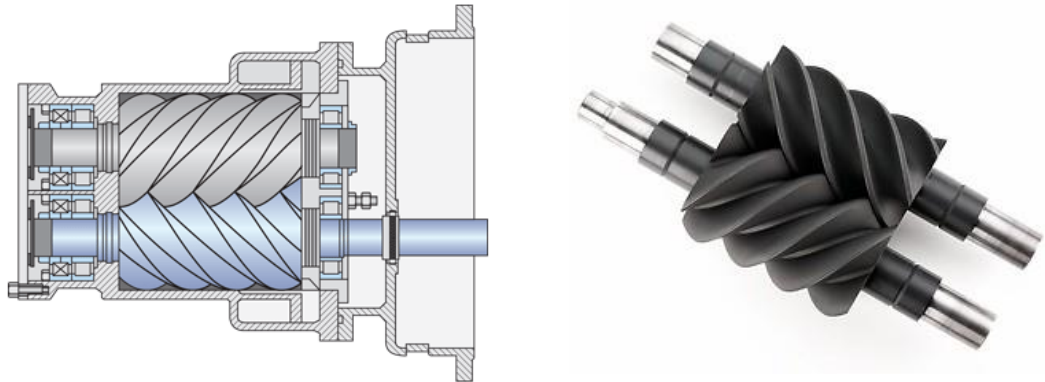

FIG 10.
- ✓ This compressor consists of two rotors. One with a concave (female) profile and the other with a convex profile. (Fig 10)